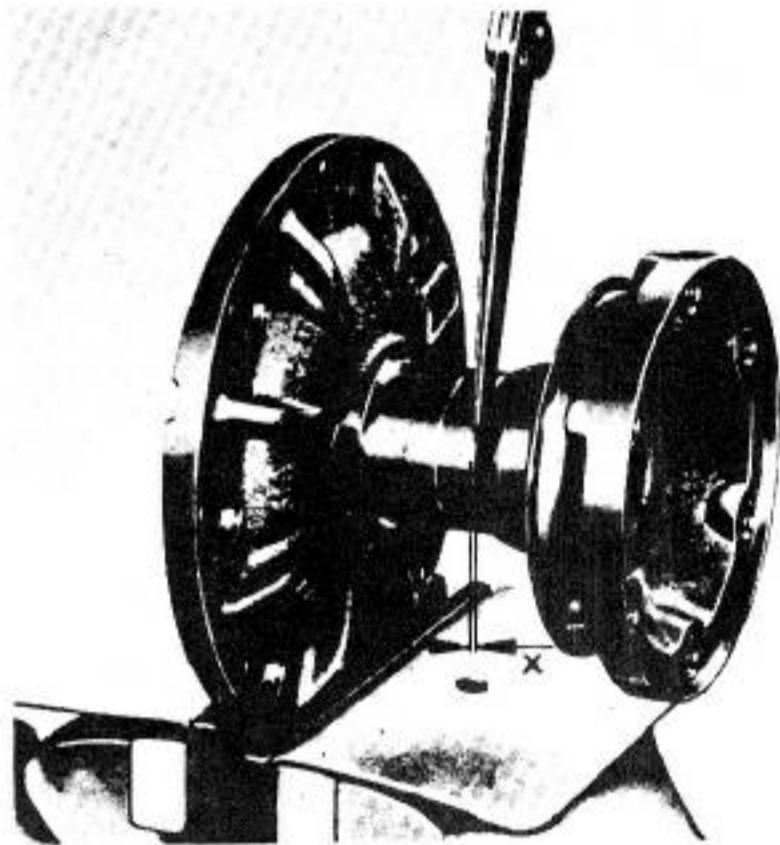

Fig. 11-36. Checking axial play x with a feeler gauge.
- Measure the clearance as shown in Fig. 11-36. Then select the shim to suit the clearance from Table I.